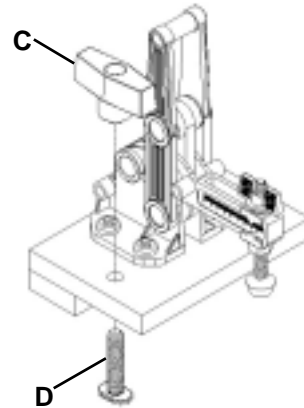

Figure 2
2. Insert the 5/16-18 X 1-1/2" T-Slot bolts (C) through the clamp-block, as shown in Figure 2, and attach the 5/16" thread T-Nuts (D) as shown in Figure 2.